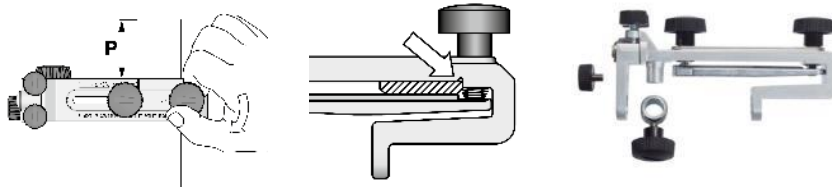

Fig 5 Setting up the tool in the Square Edge Jig
5. Set up the tool in the *Square Edge Jig* for grinding the primary bevel. See figure 5 below.